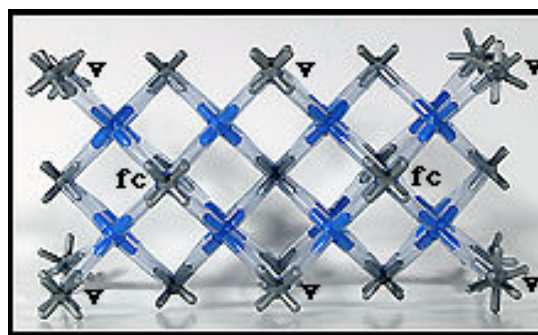

Fig. 9 Completing two adjoining face centered unit cells. v=vertex ion; fc=face centered ion.
7. Place a single bond on each of eight calcium ions. The bond each calcium to a blue peg which does not have a bond to it already. See Fig. 9.